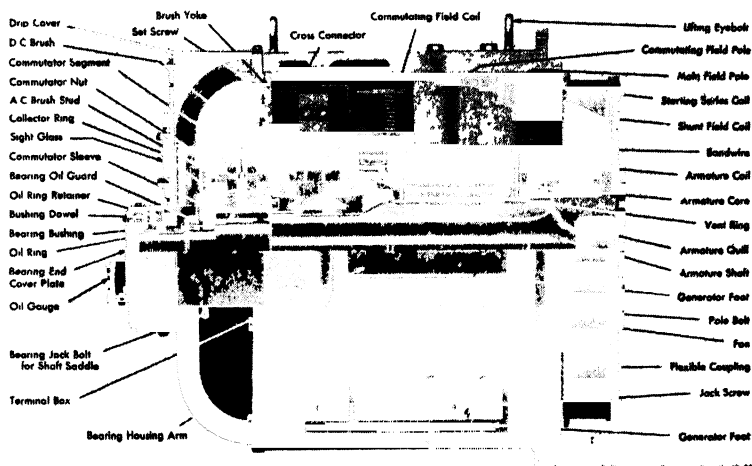

FIG. 1-55. Sectional view of a direct-current generator showing details of construction. Generator is rated 100 kw. (Courtesy Allis-Chalmers Mfg. Co.)
**Commercial Direct-current Generator.** The principal parts of a commercial direct-current generator are shown in Fig. 1-55. These parts are the frame, the poles, the armature, the commutator, and the brushes. The purpose of the frame is to support the north and south